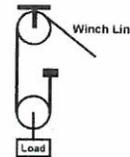

Figure 1b, 2 Part Single Reeved Systems
-2 persons weighing a maximum 620lbs (280kg) 310 lbs when used in a 2 Part Single Reeved System (see Figure 1b).